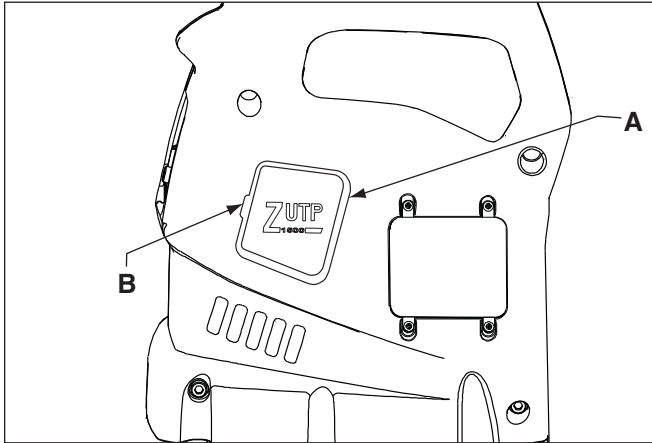

Figure 10, Brush Cap Removal
6.4 Motor Brush Replacement (See Figure 10)
2. Remove both brush caps (A) by deflecting the brush cap latch (B) and gently prying outward. See Figure 10.